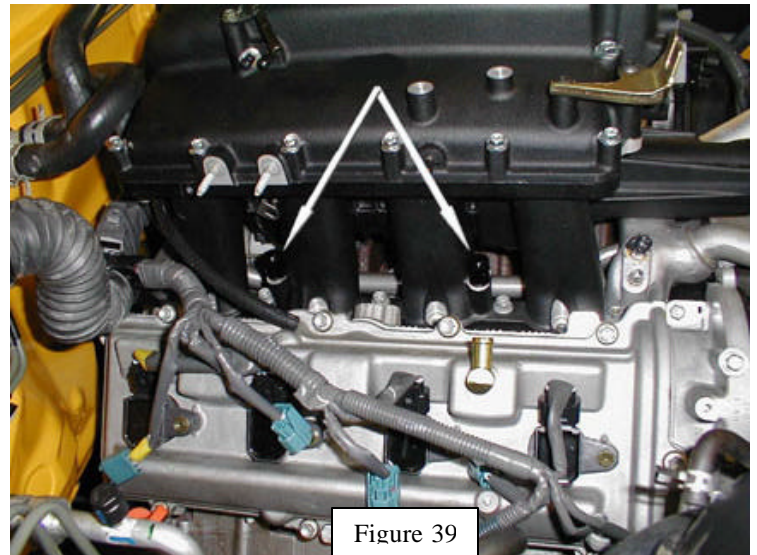

Figure 39
3. Install OE passenger-side fuel delivery pipe spacers (Figure 39).